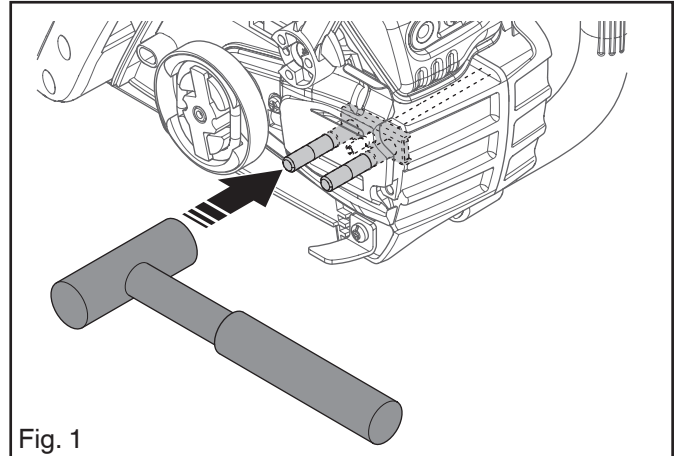

Fig. 1
2. Knock through the old guide bar bolts so that they fall into the oil tank. See Figure 1.
2. Connect Ignition Tester to spark plug cap and ground the clip to the cylinder fins. See Figure 1.